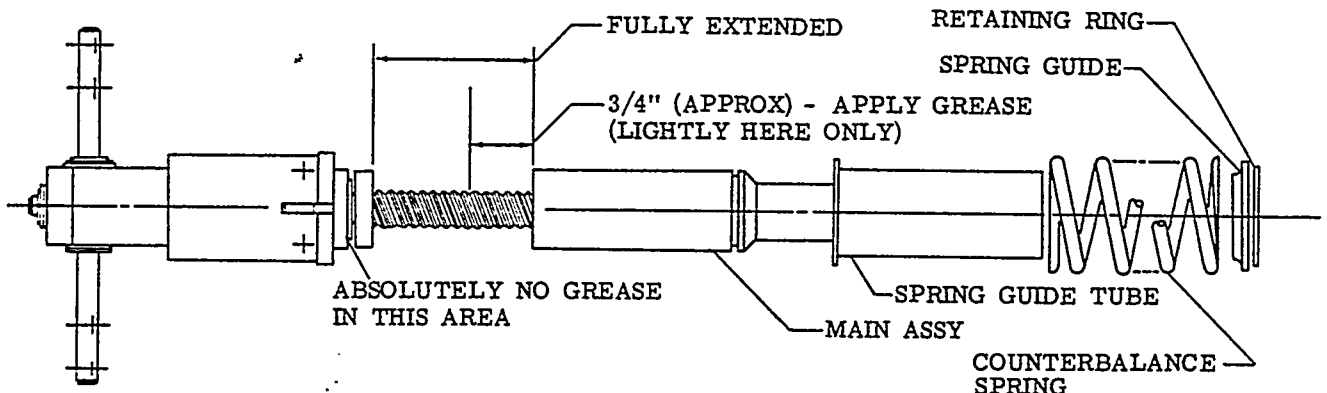

Figure 2-2. Roton Lock
(Figure 2-2)
- a. Use only (Item 30, Consumable Materials Chart) on the thread as shown in Figure 2-2. Too much grease or grease in the wrong place can cause improper operation.
- f. Apply a small quantity of grease to the completely extended thrust screw (see Figure 2-2).